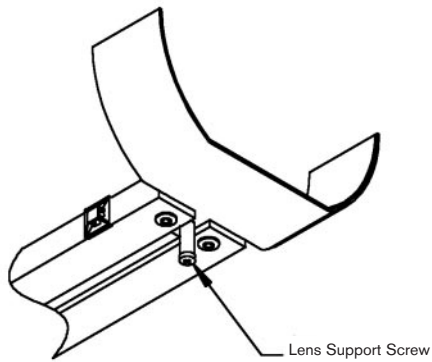

FIGURE 18 Support Screw Adjustment
1. The lens support screw is provided to support the rail assembly. Adjustment will only be necessary if the rail assembly is rotated at angle other than horizontal. If the screw head is not touching the cover when the cover is installed, loosen the screw until it does. See FIGURE 18.